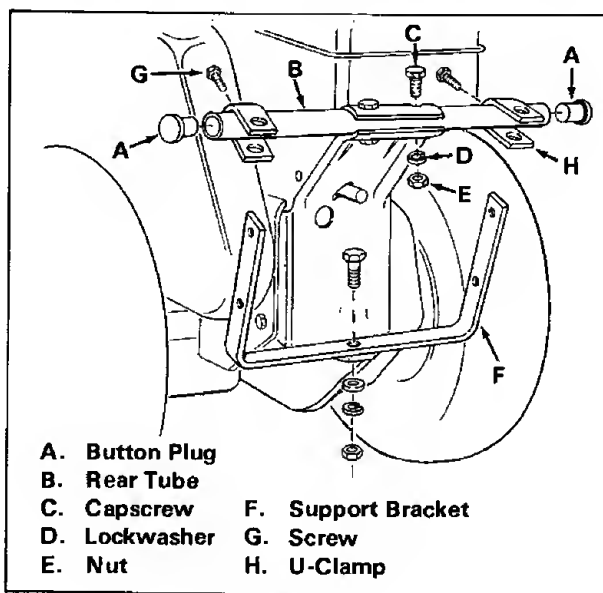

Figure 5
1. Press the button plugs (items A, figure 5) into the ends of the rear tube (item B).
6. ON 8 H.P. MODELS ONLY remove the rear tube (item B, figure 5) if desired.